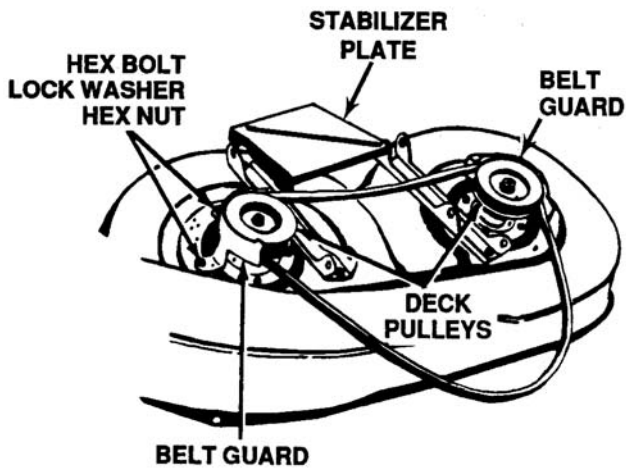

Figure 12-42. Removing Belt Guards
10. Remove the belt guards at each deck pulley by removing the hex bolts, lock washers and hex nuts or self-tapping screws (as equipped). See Figure 12-42.